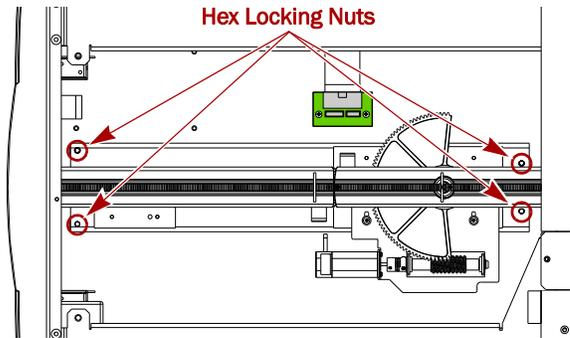

Figure 5. Remove Hex Locking Nuts
- Remove the **four hexhead nuts and washers** (Figure 5) securing the track to the chassis bottom.